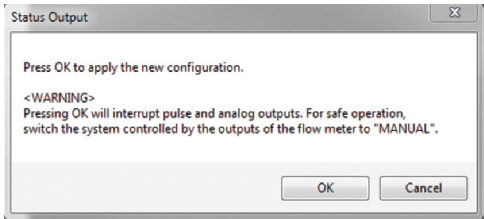

Figure 2.11—Configuration Update warning
2. Click **OK**. A Configuration Update warning (Figure 2.11) will appear.